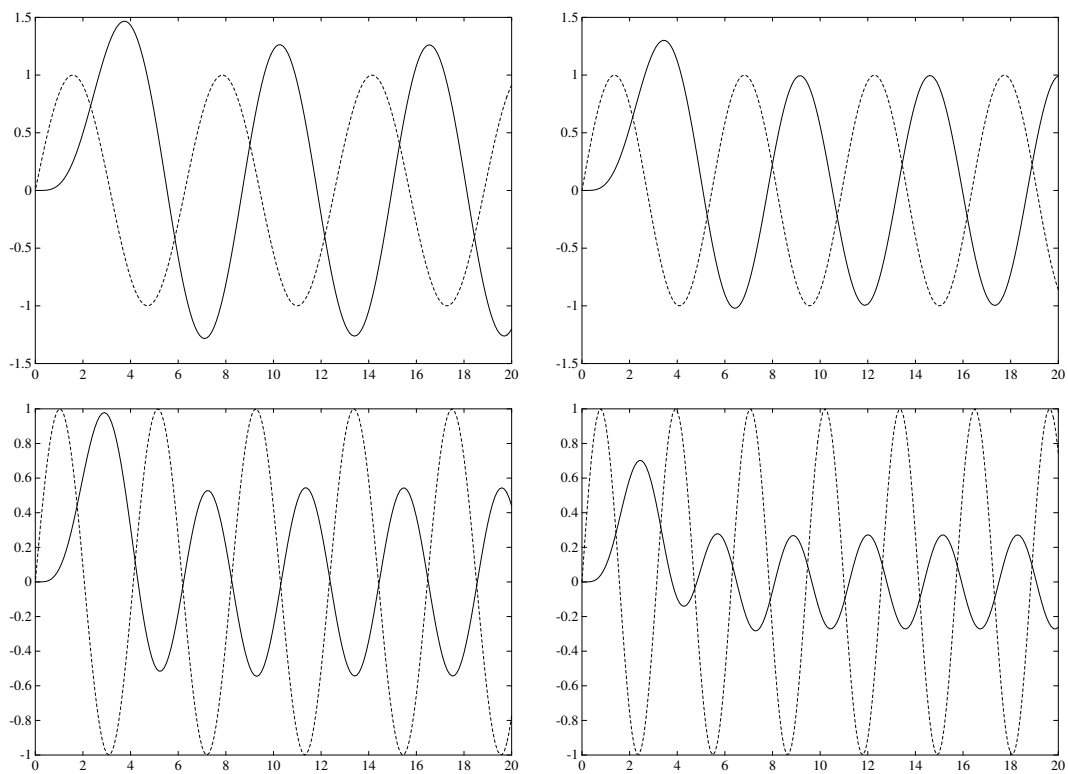

Figure 9.5 The frequency responses in Problem 9.5. The dotted curves are the input u and the solid curves are the system output y .
9.5 A set of frequency response experiments have been performed on a stable system, see Figure 9.5. The dotted curves are the input signal and the solid lines are the output signal of the system. Determine the amplitude and phase margins using the information in the plots.